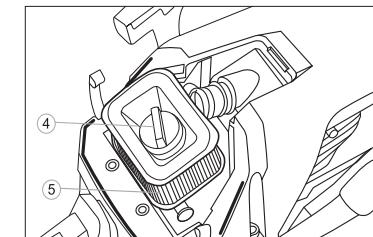

Fig. 25
2. Unscrew nut 4 (Fig. 25) and remove the filter 5.